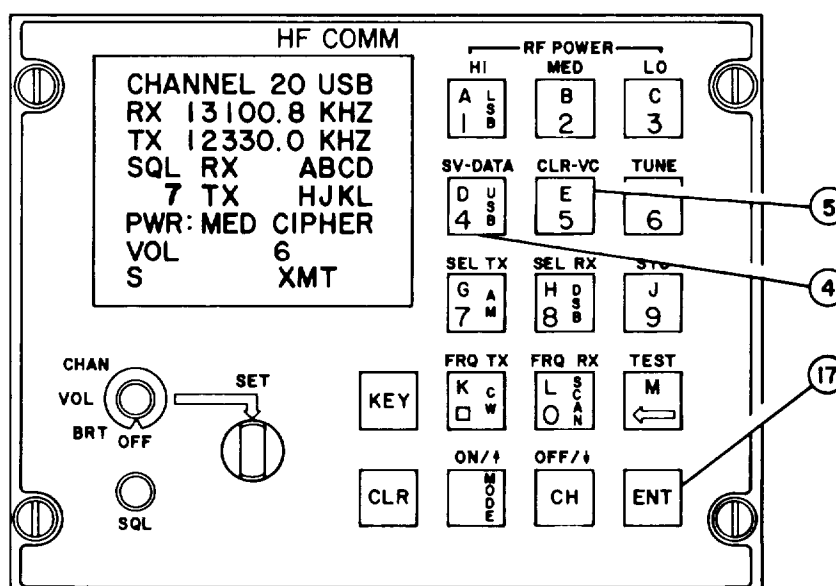

Figure 2-37. C-11245/U Secure Voice Operation, Controls
- (1) **Handset.** Disconnect handset from Electronic Equipment Interfacing Box J9812 and connect it to secure voice equipment handset connector (J2) on KY-65. The KY 65 secure voice equipment requires that a handset be used such as the H-250/U or equivalent.
- (2) **Operation.** Refer to figure 2-37. Select secure voice mode by pressing SV-DATA pushbutton (4) then ENT pushbutton (17). The display on the CRT screen shows VC-DAT in field 8 (figure 2-2). The operation of the AN/VRC-86(V) is the same as described previously. For further information on operating the secure voice equipment refer to the operator's manual for that equipment. Even when secure voice equipment is connected, the demodulated received audio signal, whether ciphered or not, is what is monitored on the AN/VRC-86(V) speaker and handset output. This signal is also the audio input to the secure voice equipment. Therefore, to be able to communicate using ciphered signals, a handset must be connected to the secure voice equipment. Additionally, this handset can be used for unciphered communications when the secure voice equipment is in bypass mode.